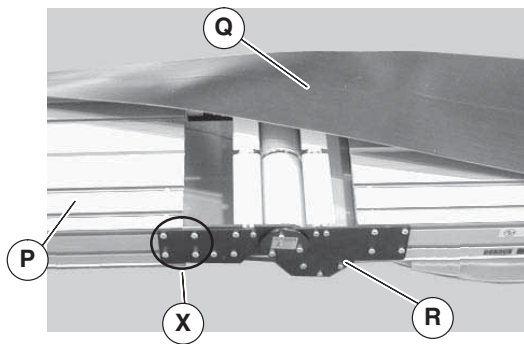

Figure 7
- Roll out conveyor belt (Figure 7, item Q). Loosen (4) screws (X) on both sides of knuckle (R). Slide frame (P) into knuckle (R). Tighten screws (X) to 60 in-lb (7 N-m) on both sides of conveyor.